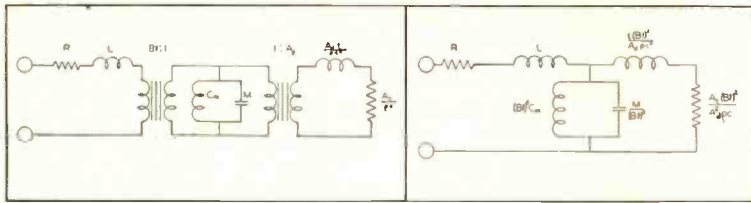
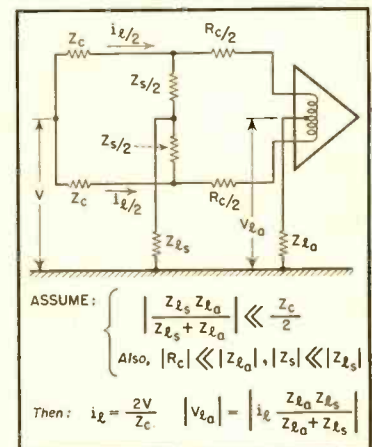

Fig. 7 (left). Equivalent circuit of the entire loudspeaker. Fig. 8 (right). Typical band-pass filter configuration.
Fig. 6. Schematic representation of a longitudinal current resulting from parasitic coupling to a power circuit.
compliance of the air chamber and the resistance of the horn throat to Fig. 6, we have the equivalent circuit of the whole loudspeaker, Fig. 7. This can be reduced to the circuit of Fig. 8, which is a standard band-pass filter, and from the design equations of this filter one finds that for optimum performance the following relations should exist:
These results are shown in the curves of Fig. 6, where (A) is the maximum power in  $\frac{1}{8}$ -second intervals for male speech, and (B) represents maximum peak power in the same intervals for a 75-piece orchestra. While there is some reason to believe that higher efficiency in more modern microphones may modify these curves somewhat in the direc-
Some pre-emphasis is employed in practically all commercial recordings made today. Typical curves are shown in Fig. 7, where (A) represents the NAB curve which is generally used with transcriptions and is standard for LP records. The curve used by RCA-Victor is believed to approximate that of (B), while the London (English Decca) curve is shown at (C). Undoubtedly there are some other curves in use, but these shown are commonly employed. If a phonograph amplifier is equipped with means to provide "rolloff" curves which are complementary to these re-
Fig. 6 (left). Curves showing maximum probable power in  $\frac{1}{8}$ -second intervals in male speech (A), and in a 75-piece orchestra (B). Fig. 7 (right). Typical pre-emphasis curves: (A) NAB and LP; (B) presumed curve for RCA Victor; and (C) London ffr.
The schematic representation of noise resulting from a longitudinal noise current is shown in Fig. 6. The longitudinal impedances of the input circuit to ground are assumed to be negligible in comparison with the magnitude of the coupling impedance  $Z_c$  between the power circuit and the input circuit of the amplifier. Consider the case in which the metallic-circuit impedances are negligible compared with the magnitude of the longitudinal impedances to ground of the input circuit. The longitudinal noise current entering the circuit is then  $i_i = 2V/V_c$ . Under these conditions, the longitudinal voltage to ground of the input circuit of the amplifier is